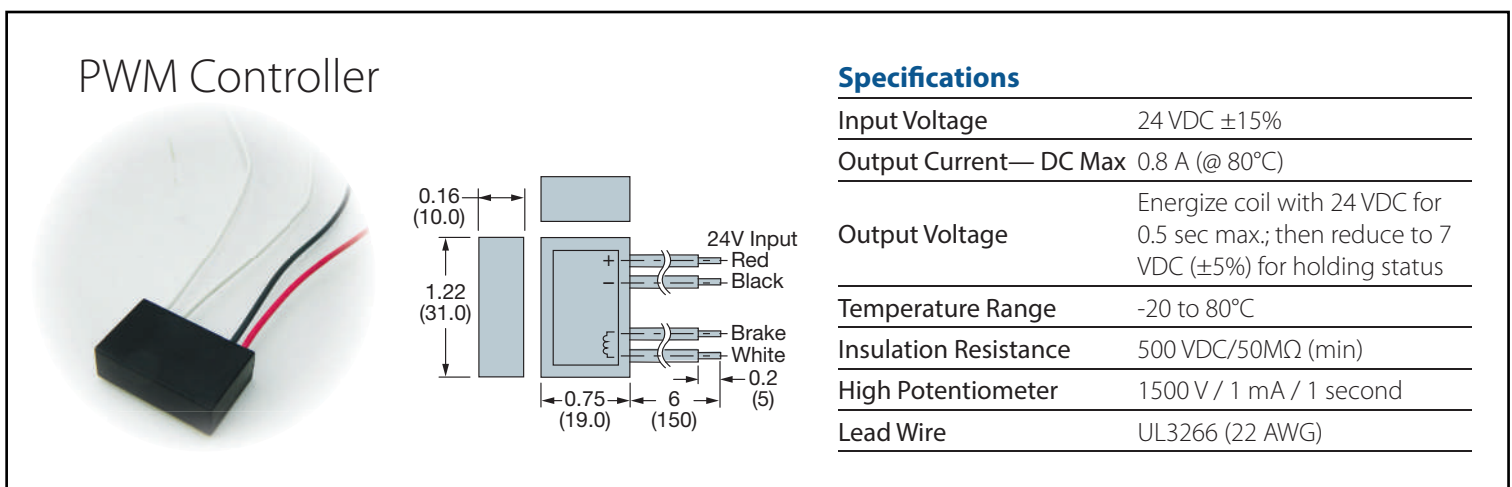

Figure 1
(See Electrical Connections and Figure 1 below)
- Connect the two lead wires 1 **RED**, 1 **BLACK** of the PWM Controller to the 24VDC power source. Connect the output 2 **White** lead wires to the UTSEB brake (See Figure 1 below).